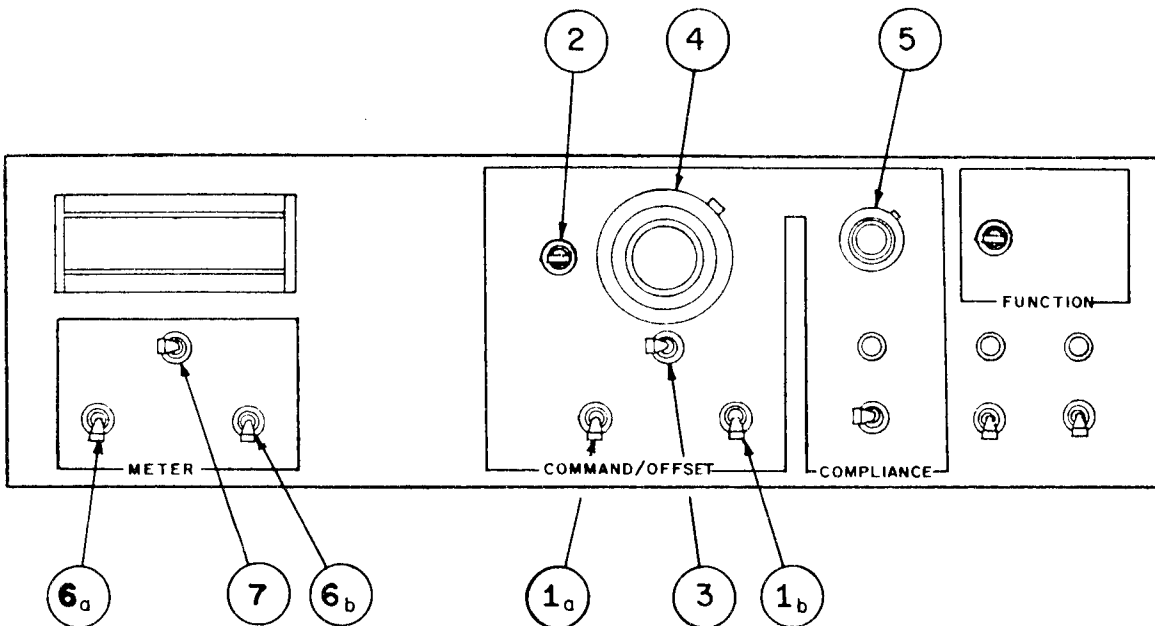

Figure 70. Example of Front Panel Settings
e. To perform a routine operation in the I_r AMPLIFIER mode, given a random gain of $20 \mu\text{A/V}$, set the controls (see Figure 70):